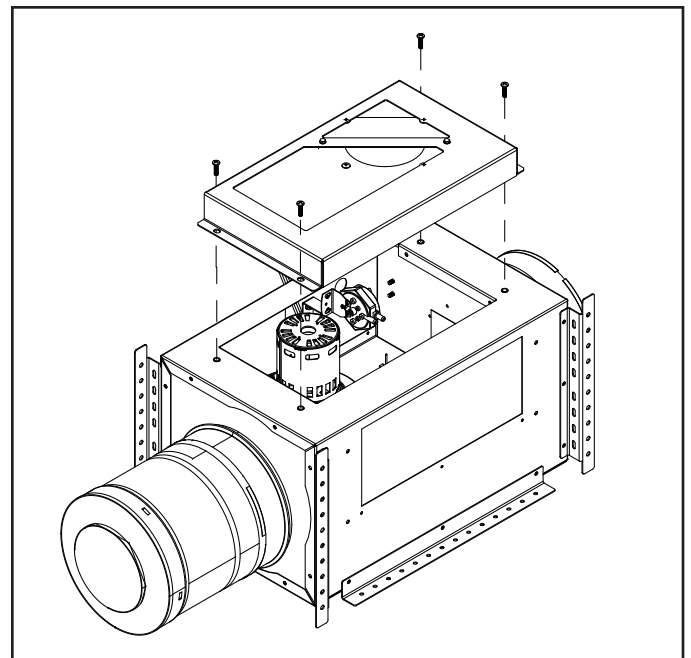

Figure 7.20 Motor and Electrical Access
3. Motor: The blower motor bearings are sealed and no further lubrication is necessary. To access the motor, vacuum switch or pressure sense tube. Refer to Figure 7.20.